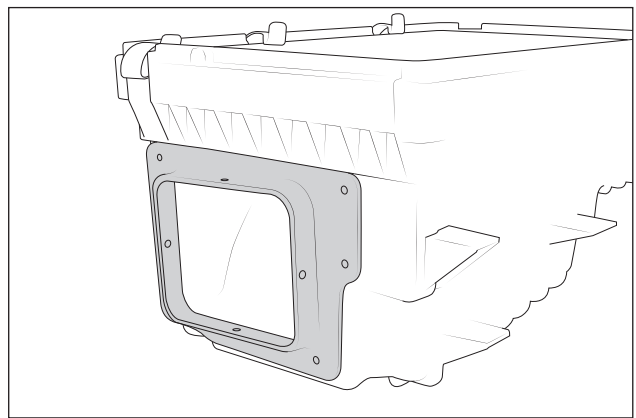

Figure 15
3. Position the AEV air inlet flange to the air box and mark the holes (Fig. 15). **NOTE:** 3.6L and 5.7L air boxes have a smaller inlet hole. These should be enlarged using the AEV inlet flange as a guide.